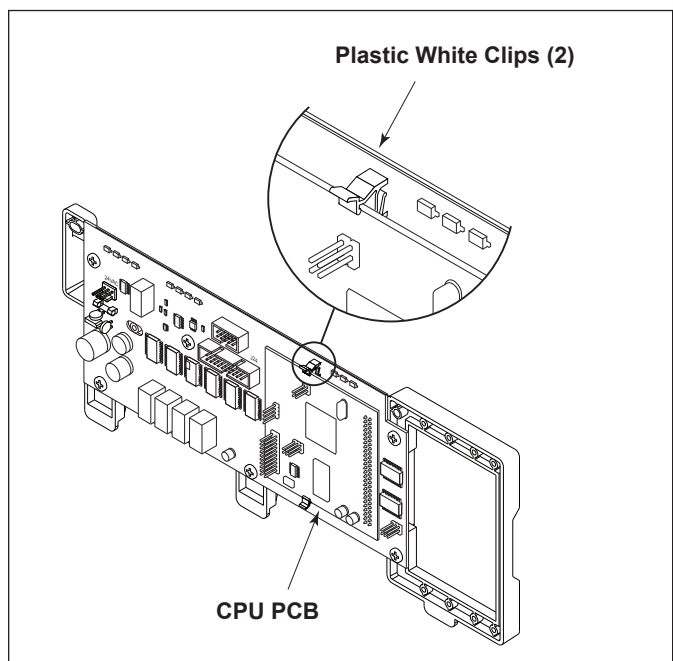

Figure 3. CPU PCB Bezel Assembly
12. Pull apart the white clips holding the CPU, and remove the CPU from the main power center board. See Figure 3.
13. Carefully put the new main power center board in place, and secure with all seven (7) screws to the bezel.
8. Paying particular attention to the alignment of the pins, install the new CPU to the main power center board. Push gently into place and secure with the two white clips. See Figure 3.